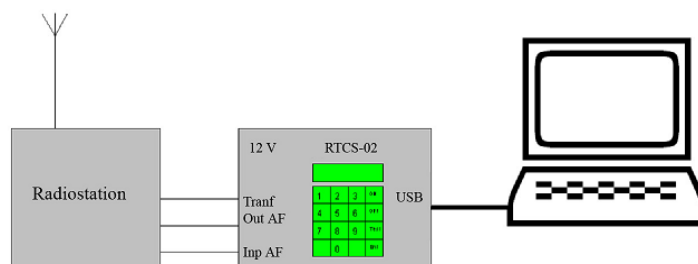

Fig. 2
- by the computer connected to USB input (fig.2);